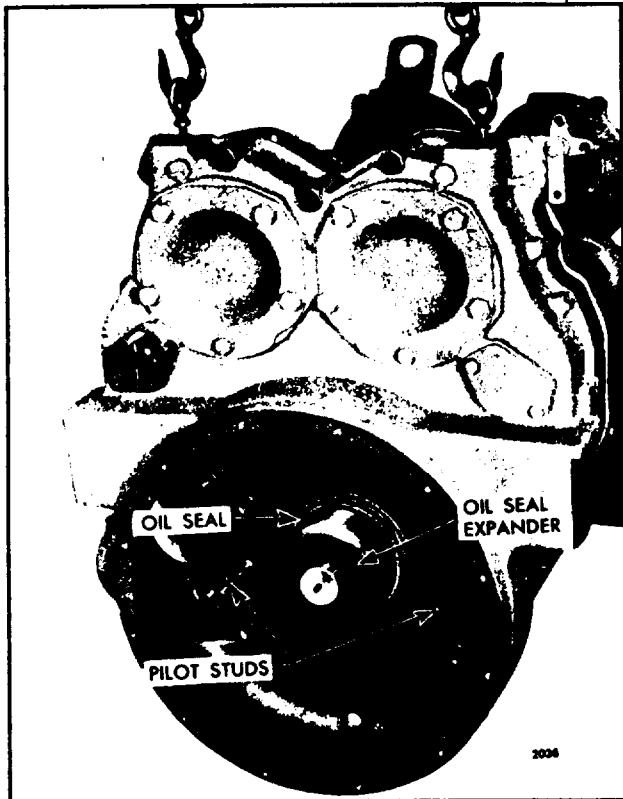

Fig. 1. Installing Flywheel Housing
9. To guide the flywheel housing until the oil seal clears the end of the crankshaft, thread two pilot studs J 7540 into the cylinder block (Fig. 1).
J 7540 into the cylinder block to guide the housing in place (Fig.1).